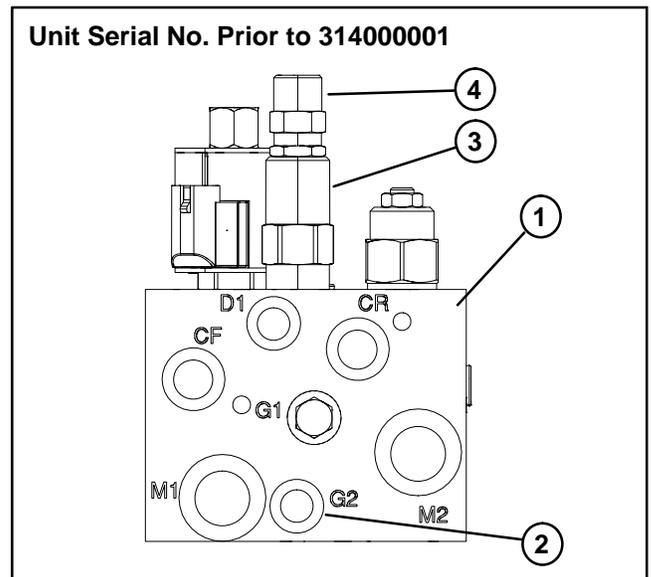

Figure 43
3. Remove cap from test fitting at manifold port (G2) (Fig. 43 and 44).
A. Remove hex cap from logic valve (Fig. 43 and 44).